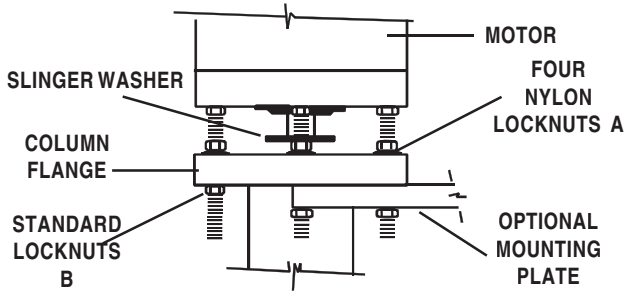

FIGURE 2
3. Using an inside divider, gauge clearance between O.D. of shaft and I.D. of ceramic liner. Equalize clearance by adjusting opposite locknuts B. Refer to Figure 2. **DO NOT MAKE ANY ADJUSTMENTS TO NYLON LOCKNUTS A.**